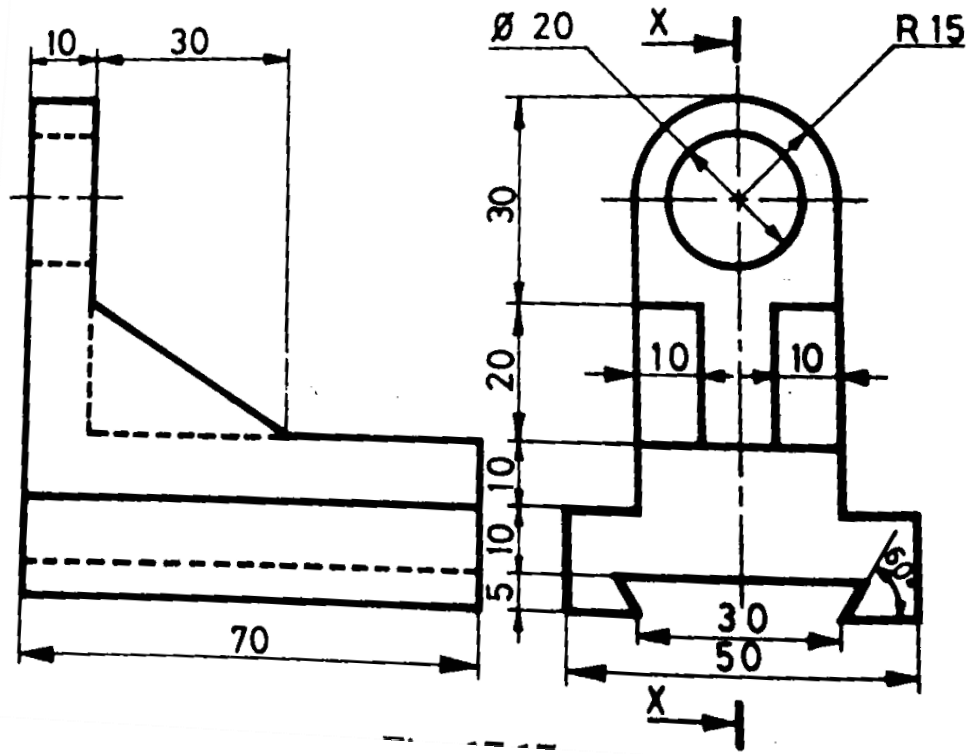

Figure 1
11. **Figure 1** shows a block draw in First angle projection. Draw in **full size** the isometric projection of the block. (15marks)